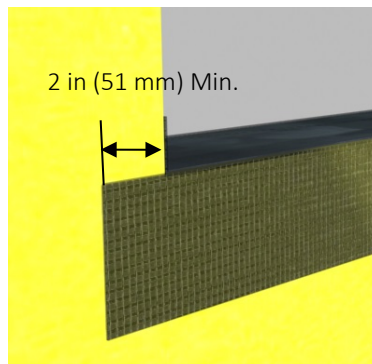

Fig. 1
- 1) Cut AquaFlash Mesh to proper length [rough opening plus 4 in (102 mm)] extending 2 in (51 mm) past each jamb – Figure 1.